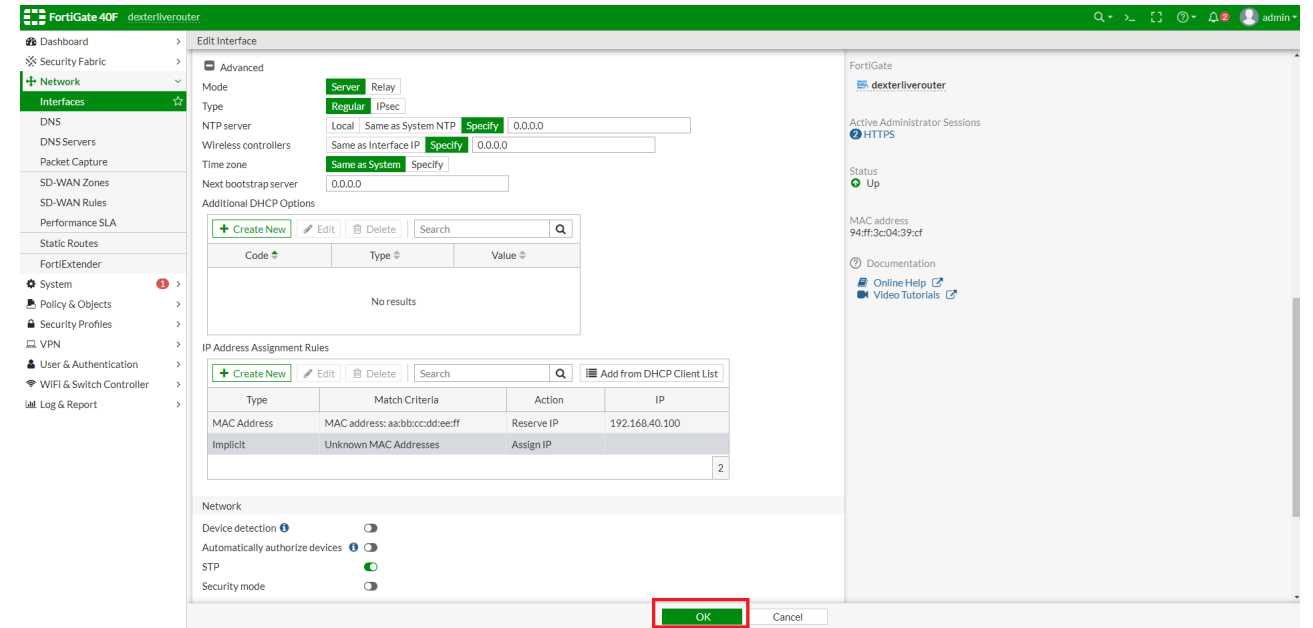

Figure 28
21. Finalize the configuration of the LAN Interface by selecting "OK". (Figure 28)